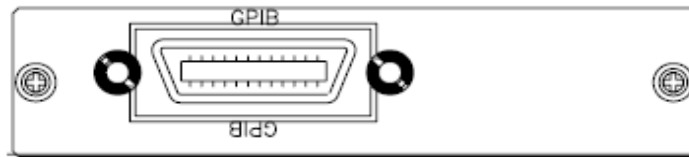

Fig 2-5 3302G REAR PANEL
- Please make sure the lock screws are firmly hand-tightened, use a Screwdriver only for the removal of screws. Fig 2-5 shows the rear Panel of 3302G mainframe, The GPIB address of the 3302G mainframe is Set on front panel.